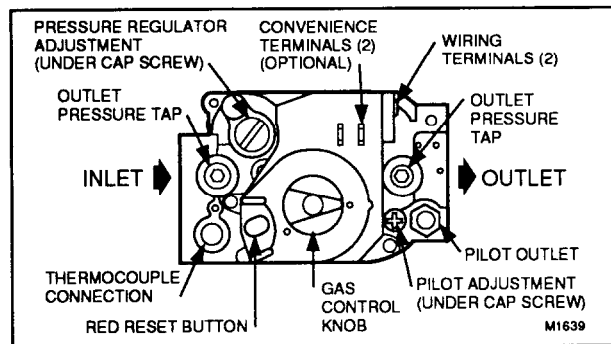

FIG. 5—TOP VIEW OF STANDARD GAS CONTROL.
6. Connect pipe to gas control inlet and outlet. Use wrench on the square ends of the gas control. If an adapter is used, place wrench on adapter rather than gas control. Refer to Figs. 5 and 6.
3. Unscrew compression fitting from the pilot outlet (Fig. 5). Slip the compression fitting over the tubing and slide out of the way.
2. Connect control circuit to gas control terminals. See Figs. 5 and 9.
1. Remove the pilot adjustment cover screw. Refer to Fig. 5.